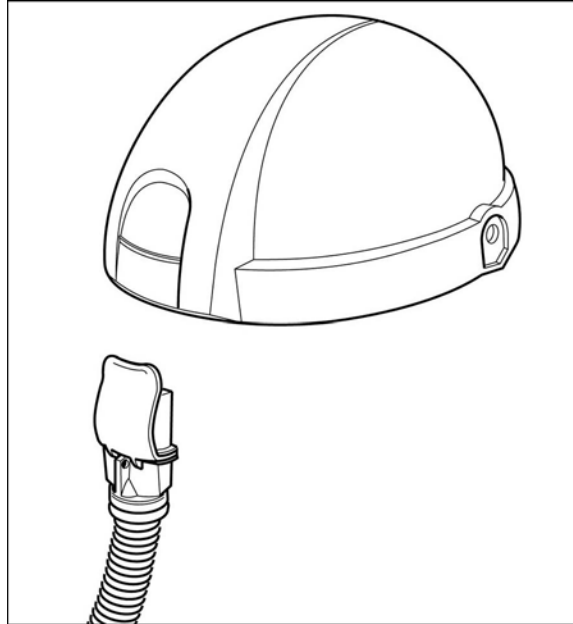

Fig: 8
2. Insert the rectangular end of the 3M™ L-122 Breathing Tube into the air inlet of the L-Series Headgear. Push until the clamp snaps into place (Fig.8).